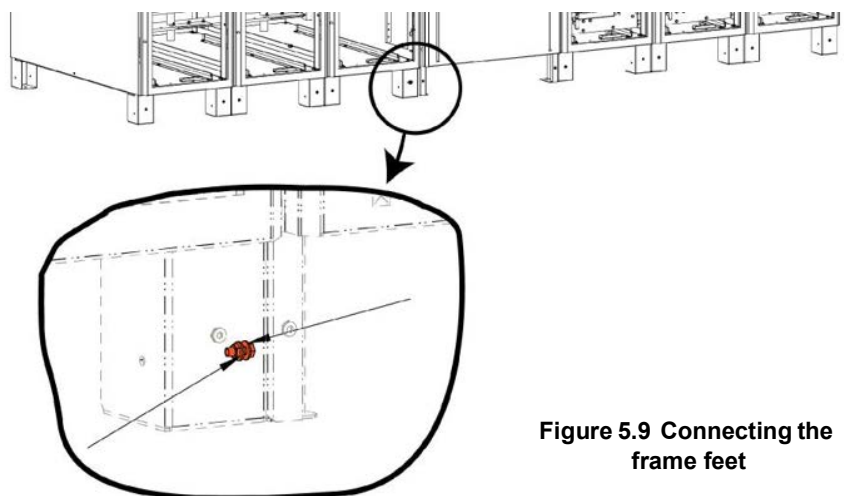
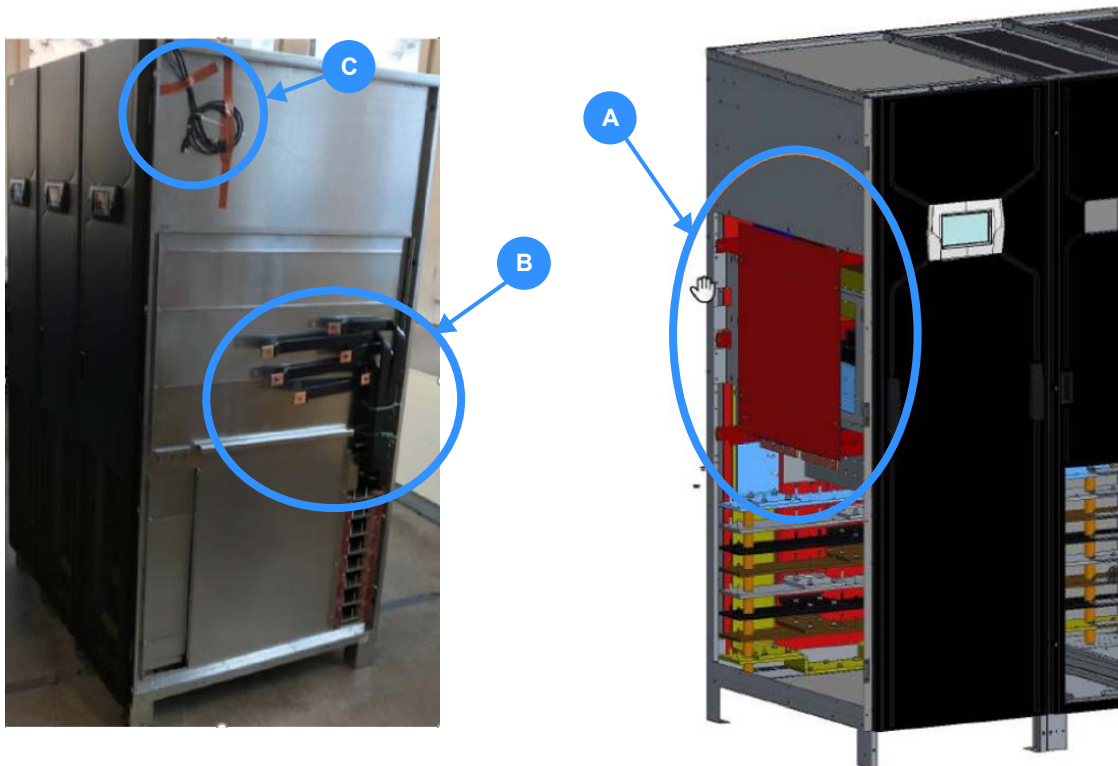

**Figure 5.8 Cabinet alignment**
Figure 5.13 Flexible busbars (DC)
4. Move the Frame A so that it is adjacent to Frame B. (see Figure 5.8), taking care not to trap the control cables at the top of Frame A between the frames – see Figure 5.13 (C).
6. Use a spirit level to ensure that the two frames are level. If necessary, place levelling shims (C) below the feet of the frames to ensure that the frames are level before the frames are joined. The shims are supplied as part of the cabinet installation kit.
4. Access the battery busbars in Frame B by removing the 4x screws that secure the red safety cover, as shown in Figure 5.13 (A), then remove the safety cover.
5. Connect the flexible DC busbars emerging from the back of Frame A (Figure 5.13 (B)) to the vertical battery busbars in Frame B.
6. Refit the red safety cover – Figure 5.13 (A).
1. The two parallel bus control cables emerging from Frame A, shown in Figure 5.13 (C), must be connected to the communications interface board located at the top front of the distribution frame in Frame B.
- When the cabinet is in its final position use a spirit level to ensure that it is level. If necessary, insert levelling shims below the cabinet feet (see Figure 5.8).
2. When the cabinet is in its final position use a spirit level to ensure that it is level. If necessary, insert levelling shims (provided) below the cabinet feet (see Figure 5.8).